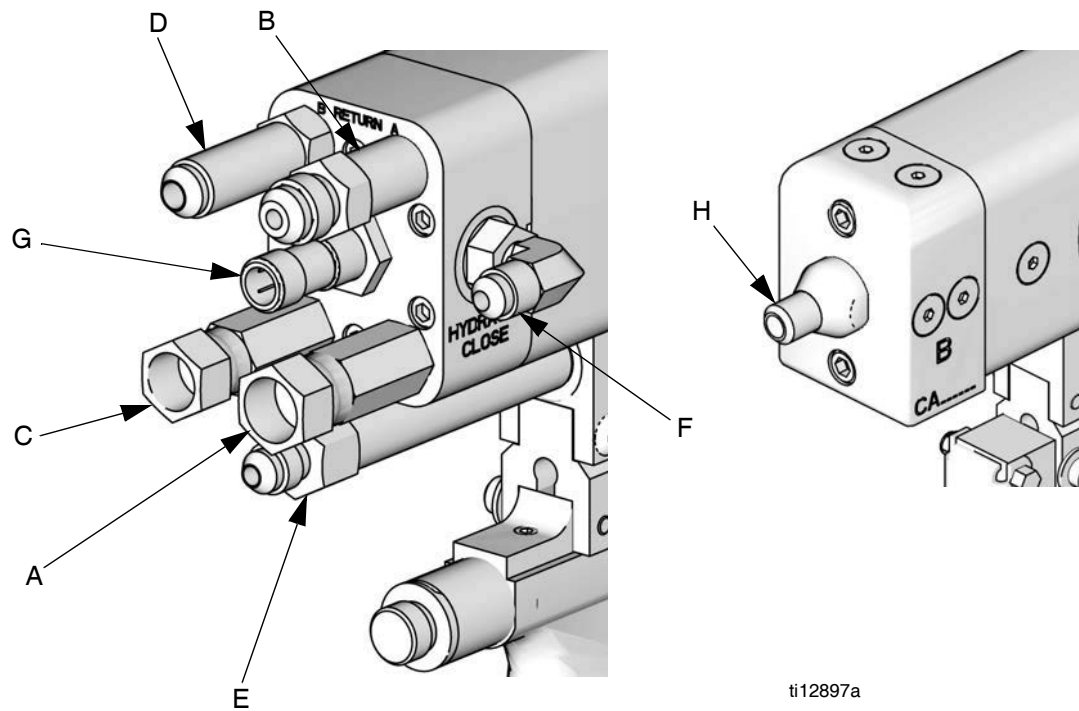
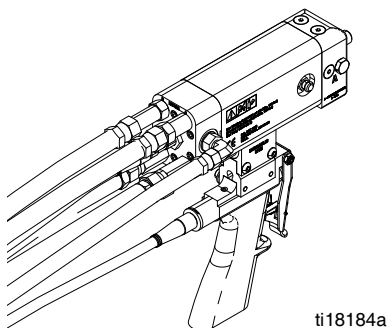

FIG. 5
FIG. 9
12. Install chemical hoses to gun. See FIG. 5 on page 10 and FIG. 9.